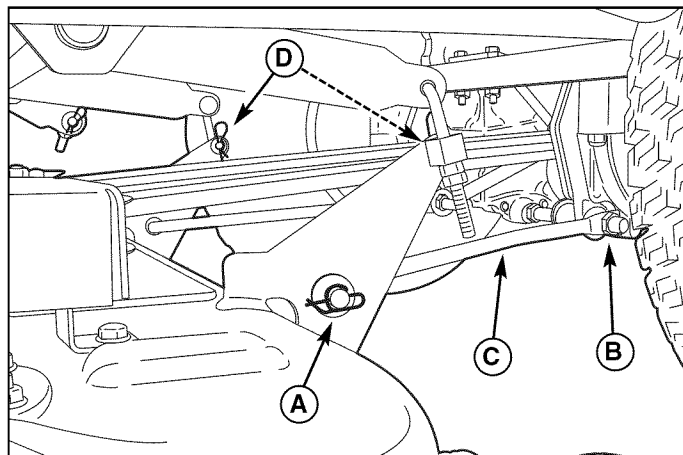

Figure 11. Rear Deck Lift Components
4. Remove the self-locking cotter pin and washer (A, Figure 11) securing the front of each stabilizer rod (C) to the rear mower deck brackets. Also remove the outer lock nut (B) securing the rear of each stabilizer rod to the mounting bolt on the transmission casing. Remove the stabilizer rods and retain all removed components.
5. Remove the hairpin clips and washers (D, Figure 11) securing the rear mower deck brackets to the rear lift arm rod swivels, and pull the swivels out from the holes in the brackets. Retain all removed hardware.
5. Insert the rear lift arm rod swivels into the top holes in the rear mower deck brackets, and secure each with a washer and hairpin clip (D, Figure 11).
6. Install the rear end of each stabilizer rod (C, Figure 11) onto the mounting bolt on the transmission casing, securing with a lock nut (B).